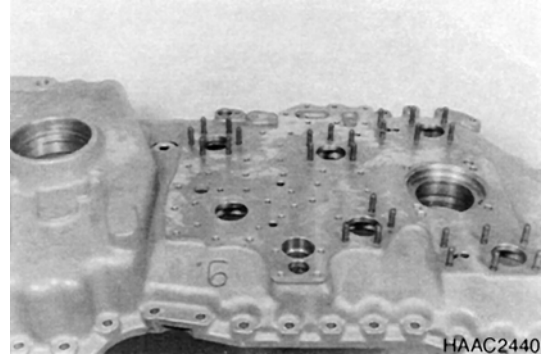

Figure 165
14. Install studs 27x (M8x25) according to the Figure 165.